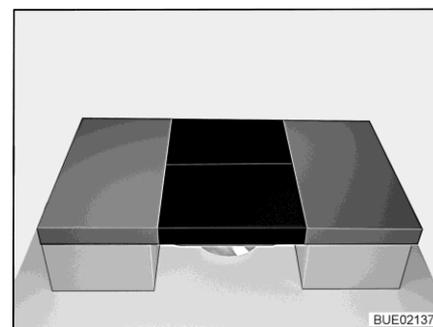

Fig. 165 After conversion
- Place two additional cushions on the table (see Fig. 165).